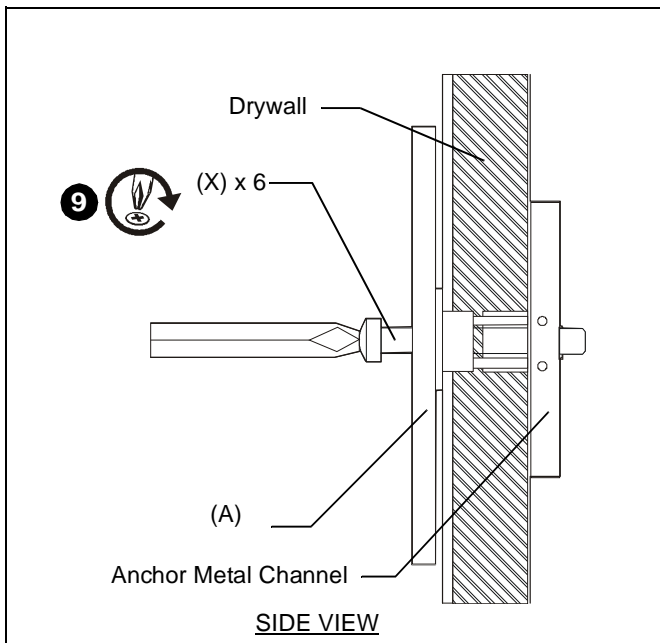

Figure 21
8. Place wall track accessory (A) over anchors and align mounting holes in display mount with holes in anchors. (See Figure 21)
9. Insert 1/4-20 x 1 3/4" Phillips pan head screws (X) through corresponding mounting hole on wall track accessory (A) and into anchor (K) and tighten until flush against mount. DO NOT overtighten! (See Figure 21)